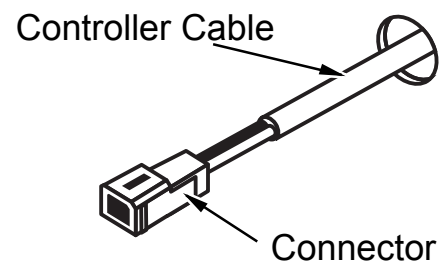

Fig.2
3. When running a cable through the access hole ensure the connector end of the cable is located nearest to the controller (Fig.2).